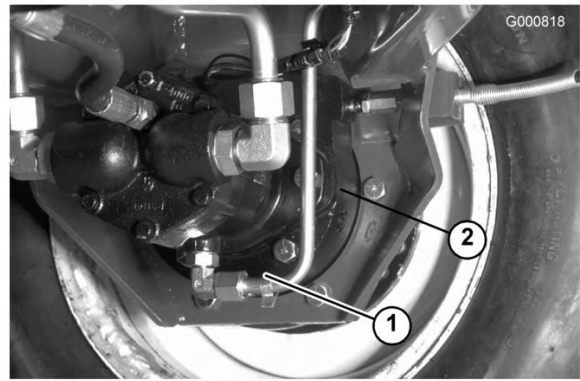

Figure 67
2. Remove the plug on the planetary (Figure 66) and the check plug on the back side of the brake (Figure 67).